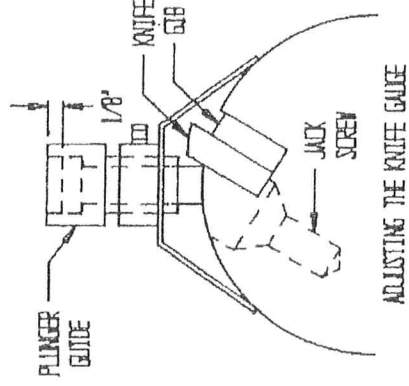

Fig. A-8
7. Adjust the knife gauge by loosening the set screw on the side of the knife gauge. Position the knife gauge on the cutterhead so the legs and the plunger rest on the cutterhead (not over the knife, or gib slot). Adjust the plunger guide so the plunger is 1/8" below the top of the plunger guide, retighten the set screw (see fig. A-8).
2. Adjust the knife setting gauge by removing the plunger, and raising the plunger guide as high as it will go and still have the set screw hold it securely (see fig. A-8 for parts identification).